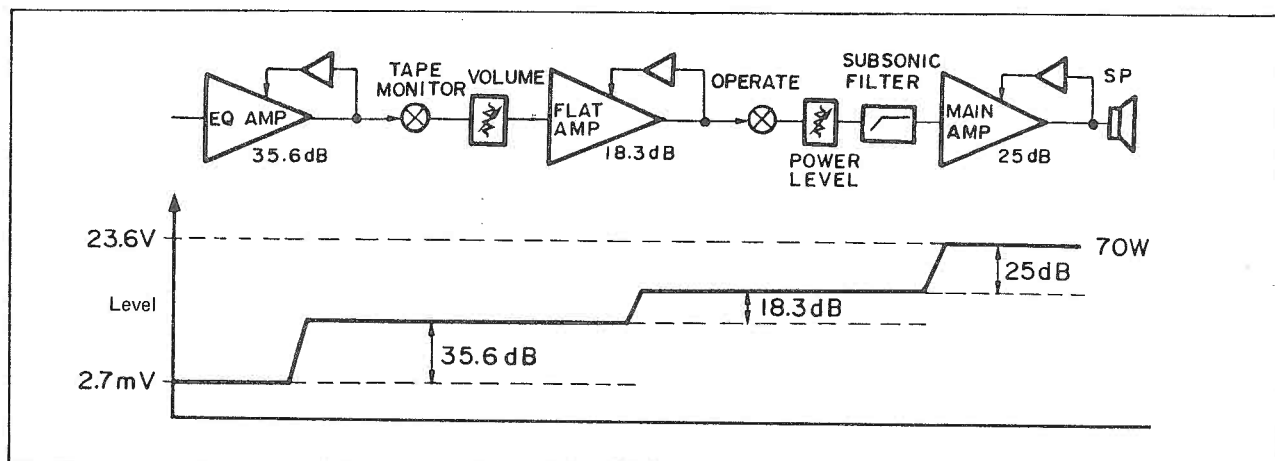

Fig. 14
The sound quality of an integrated amplifier depends to a great deal on its power supply. As can be seen from Fig. 14, the input level of the EQ amp is about 1/10000 (-80dB) as compared to the power amplifier's output level. If the power supply of the EQ amp, for example, introduces noise, this noise will appear in the speaker output amplified by about 100 times (40dB). To preclude this possibility, the A-11E employs one transformer (PT003) for the EQ amp, flat amp and main (V) amp, and separate transformers (PT001, PT002) for the main (P) amp.